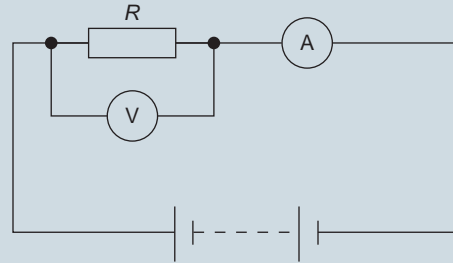

Figure 7.58
11. If in the circuit shown in Fig. 7.58, the reading on the voltmeter is 5 V and the reading